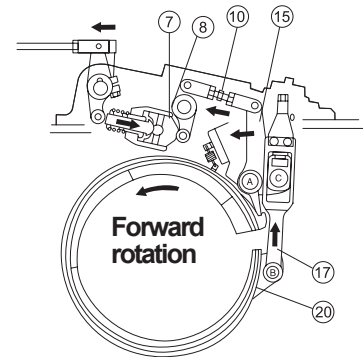

Figure 3-35
When the vehicle moves forward, the steering clutch's outer drum rotates forward (See Figure 3-35). Slightly apply brake force on the brake pedal, the clearance between the brake band and the outer drum will be reduced until certain points are in contact. Due to the friction force, the upper part of the brake band pushes against the tail end, to let Pin A enter the groove of lever (15). If the brake force continues to be applied, lever (17), Pin B, and lever (15) will move in the arrow direction, to hold the outer drum tight. At this point, A is the fulcrum of rotation.